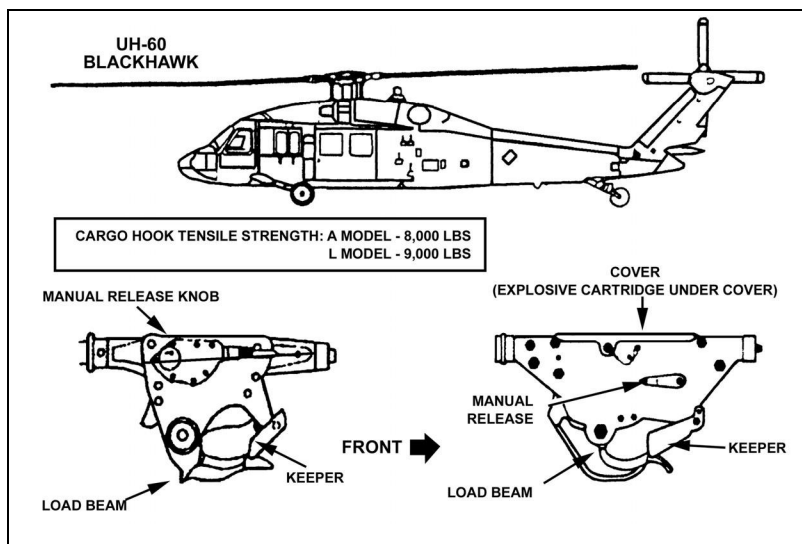

Figure 5-14. UH-60 Black Hawk and its cargo hooks.
(2) UH-60A/60L Black Hawks-8,000 or 9,000 pounds. See Figure 5-14, page 5-14.